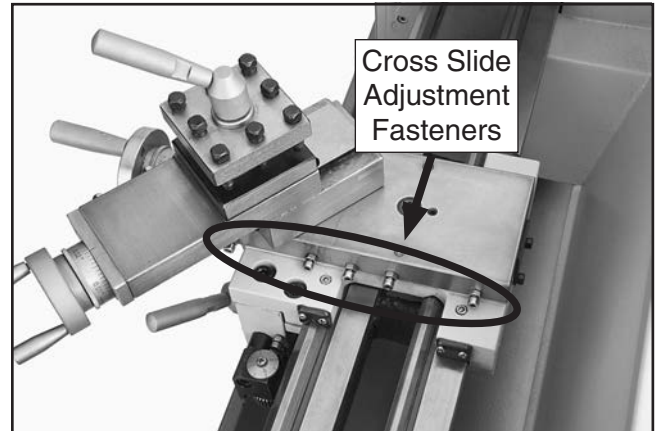

Figure 143. Cross slide gib adjustment hex nuts and cap screws.
2. Loosen hex nuts on side of cross slide or compound slide (see **Figures 143–144**).